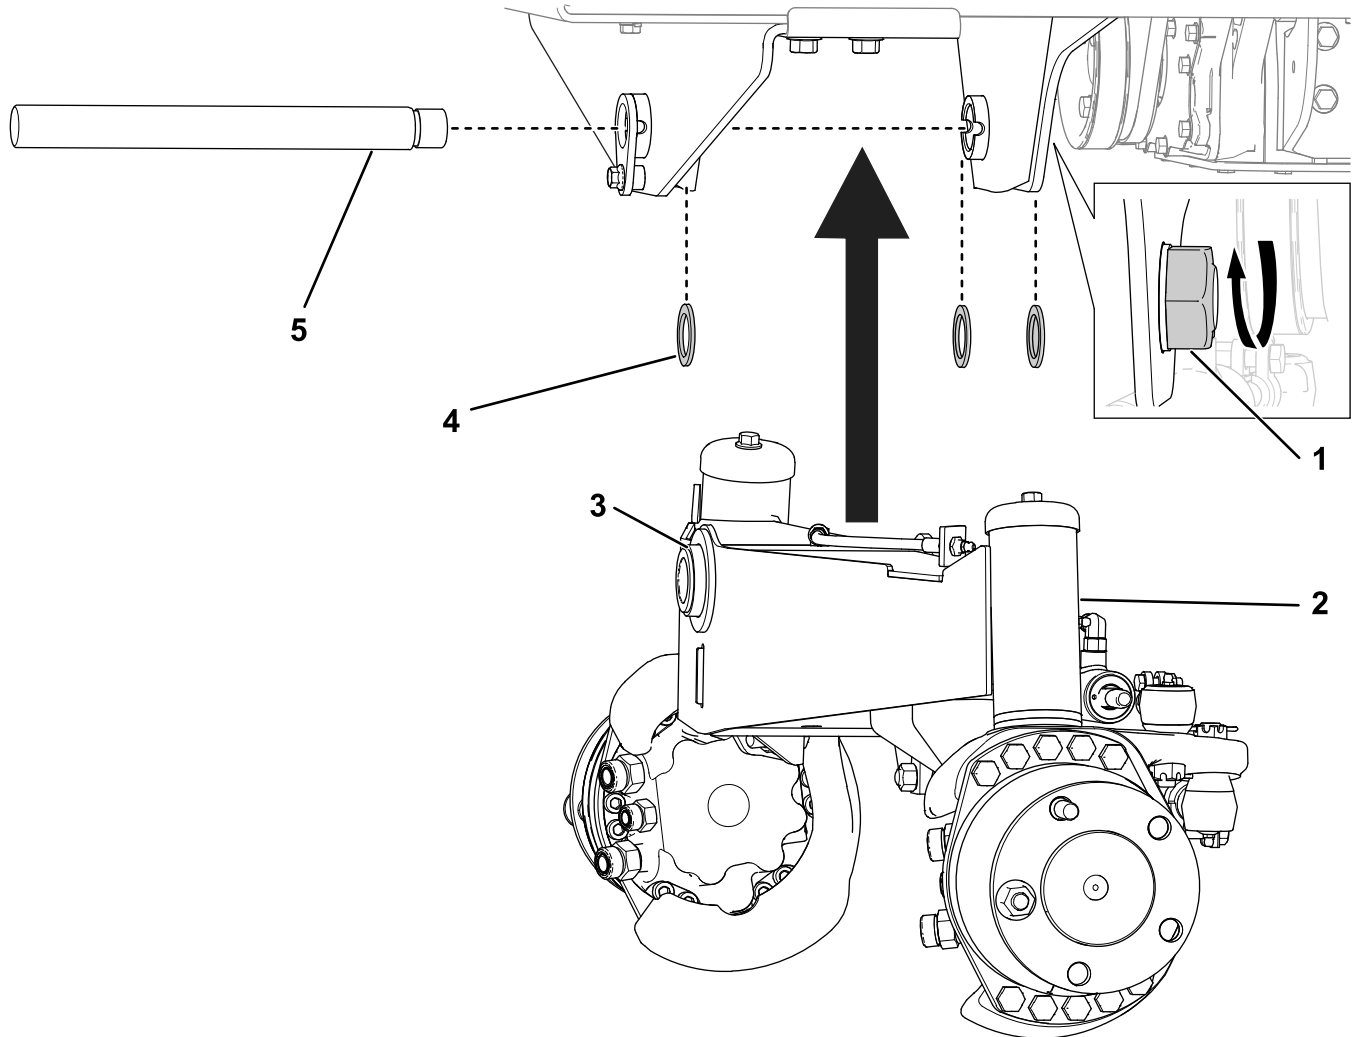

Figure 16
1. Position the rear axle assembly to the frame. Raise the axle assembly to the frame and slide the pivot shaft through the frame, the axle, and 3 thrust washers (Figure 16).
2. Secure the locknut to the pivot shaft to eliminate any axial (front to back) movement of the rear axle. Make sure that the axle can still pivot freely after the locknut is tightened (Figure 16).